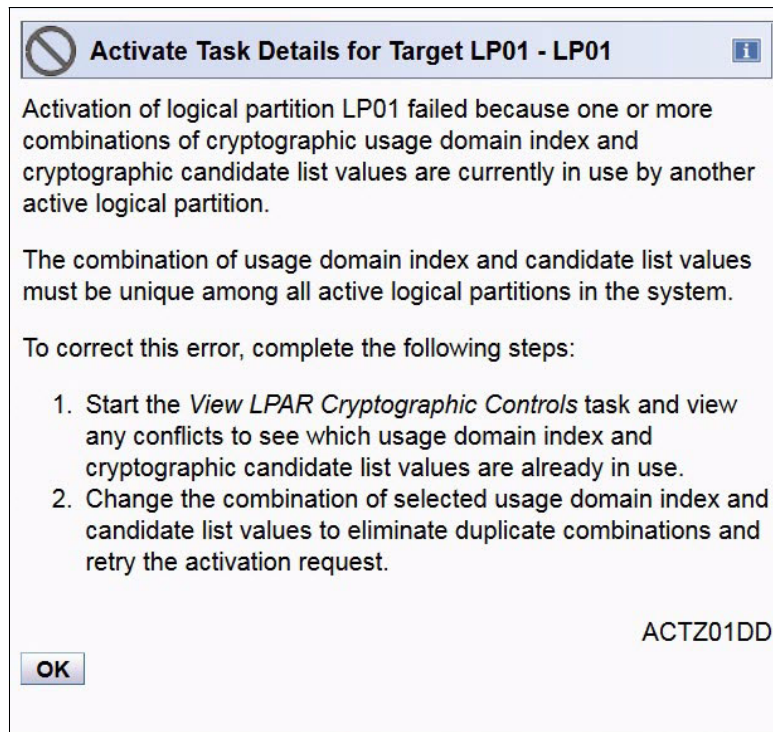
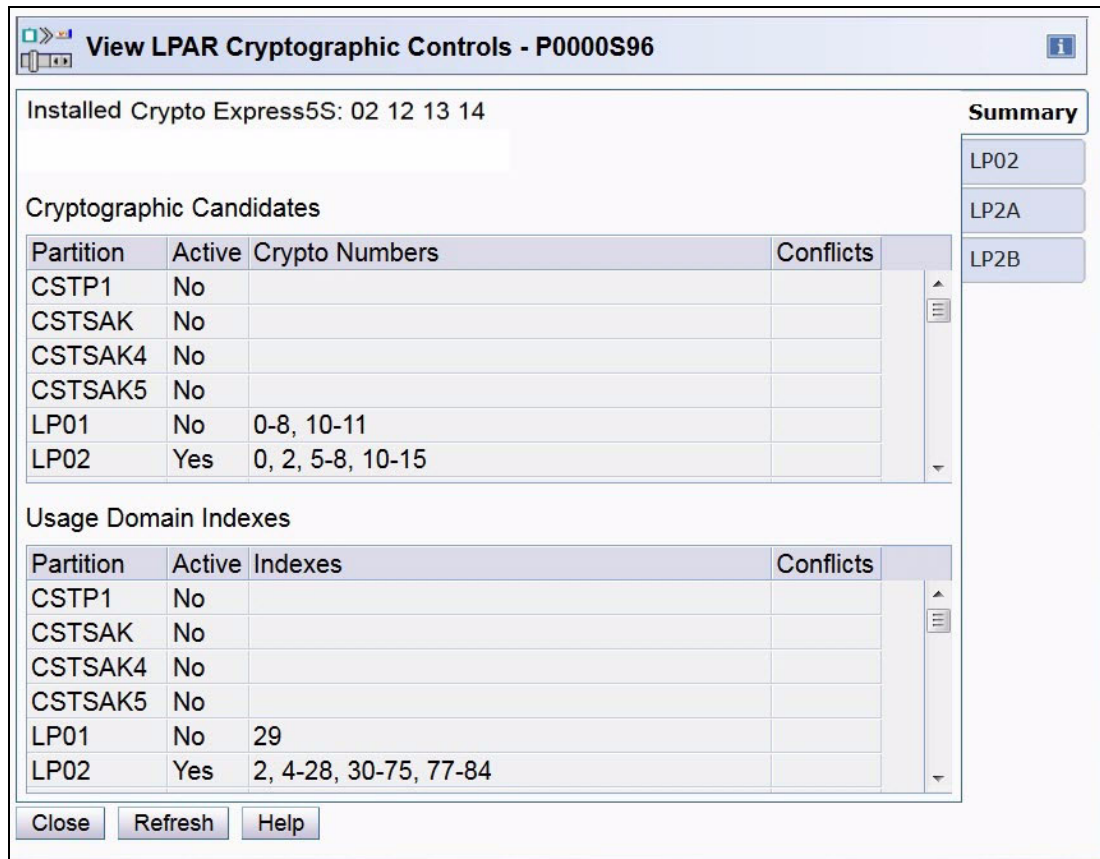

Figure 10-3 Activation of LPAR failed:ACTZ0212
Figure 10-5 SE: View LPAR Cryptographic Controls
If the cryptographic coprocessor number and usage domain index combination for the coprocessor that is selected is already in use by another active logical partition, the activation of the logical partition fails (Figure 10-3). In this conflicting case, you must review the cryptographic information for all active logical partitions from the Summary tab of the View LPAR Cryptographic Controls task (Figure 10-5 on page 552). Resolve the error based on the collected data by assigning a unique combination of PCI-X adapter number and usage domain index number.
**Tip:** You can review the PCI Cryptographic candidate lists and usage domain indexes that are assigned for all active logical partition from the Summary tab (Figure 10-5 on page 552). The usage domain index, in combination with the cryptographic number that is selected in the candidate list, must be unique across all partitions defined to the CPC. Therefore, this new tab is useful when you define or change the usage domain index for a logical partition.